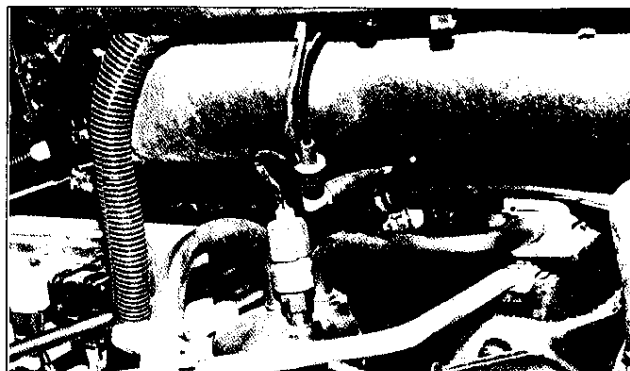

Fig. 11
- a. Route the hose attached to the brake assembly over the air conditioning lines, keeping the hose away from the exhaust manifold and the header pipe. Use the P-clip provided to secure the hose to the dash panel (see Fig. 11). Use the M6 locknut provided to fasten the P-clip to an existing dash panel stud.